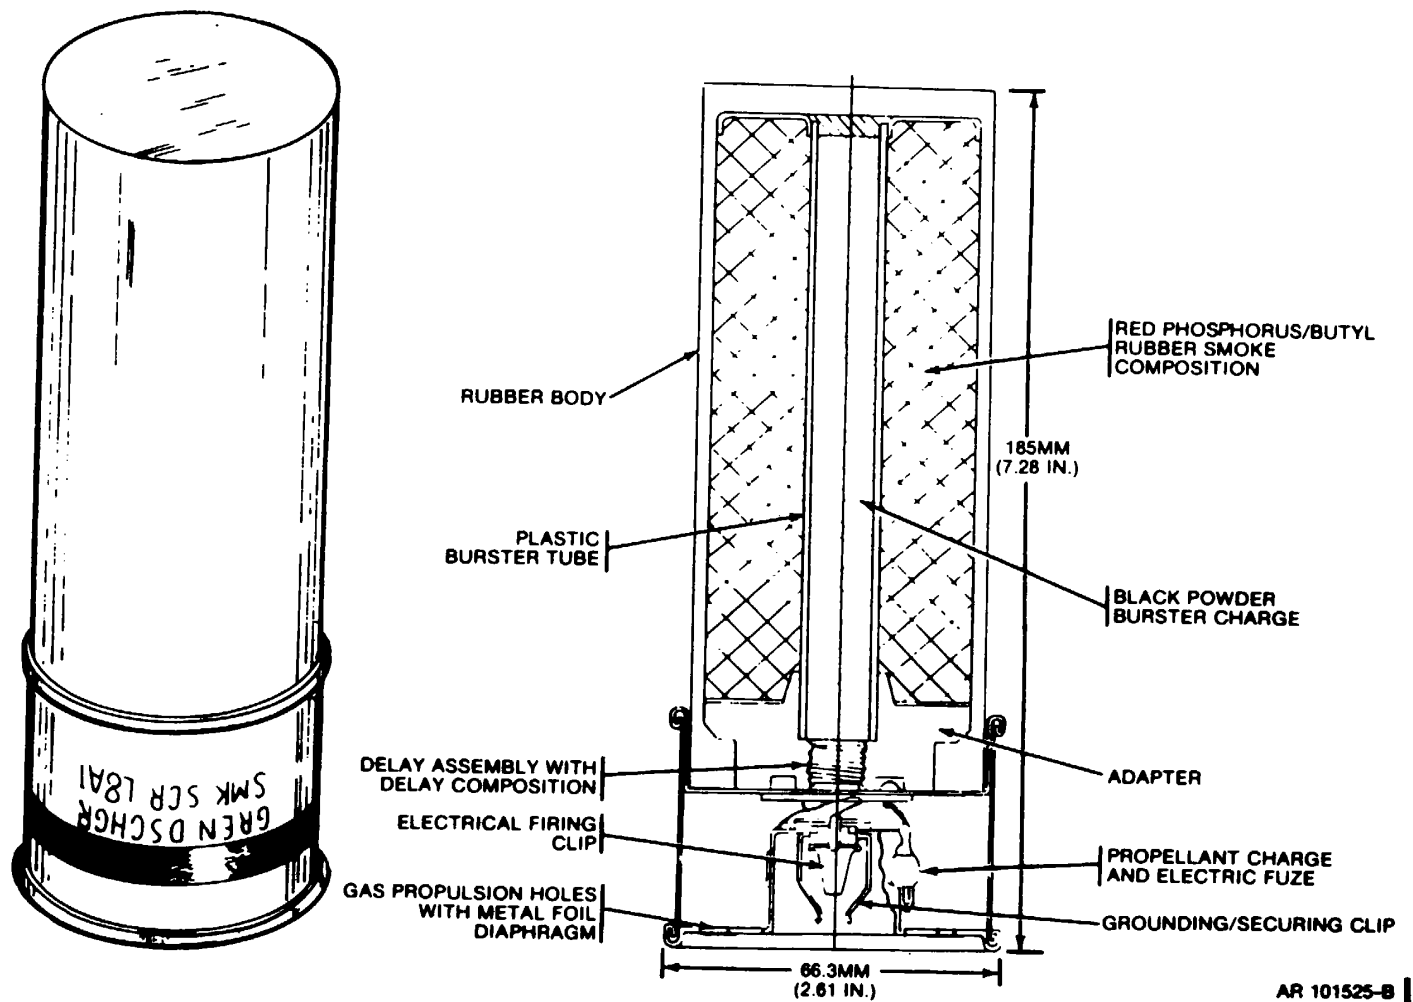

Figure 1-5. Grenade, Launcher, Smoke: Screening, RP, UK, L8A1
(1) Screen vehicles from enemy direct fire weapons when immediate counter-engagement cannot be accomplished.
(2) Conceal vehicles caught out in the open which cannot rapidly find a defilade position.
(3) Screen vehicles caught out in the open during retrograde.
(4) Extricate the crew from a disabled vehicle.
b. Description. The L8A1 grenade (fig. 1-5) and the L8A3 grenade (fig. 1-5a) are used with M239 and similar grenade launchers. The grenades are filled with a red phosphorus/butyl rubber mix. Each grenade is approximately 2-5/8 inches in diameter, 7-9/32 inches long, and weighs approximately 1-1/2 pounds.